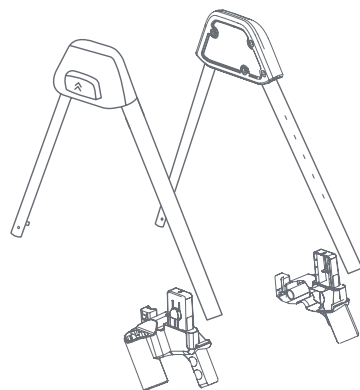

Fig. 1
- 1) • Locate the Right and Left Upper Frame Assemblies and the Height Brackets (Fig. 1).
- Pair the Right and Left Upper Frame Assemblies with the Right and Left Height Brackets as shown in the illustration (Fig. 1).